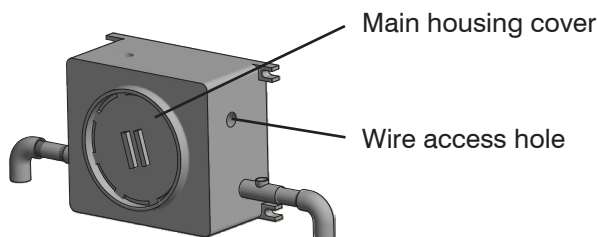

Figure 2
3. Open the main housing cover, and unplug the wire-access hole (figure 2).